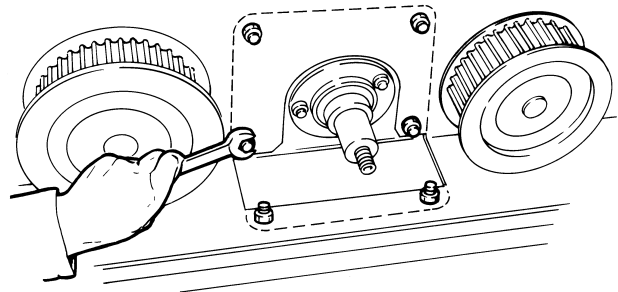

Fig 27
- Loosen and remove bolts from star shaft mounting plates (6 bolts each end), *Fig 27*, and lower shaft assembly out from underside of module.